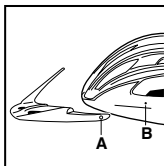

Figure 12
2. To replace the visor, center it on the helmet and then snap the pins (A) on the visor into the holes (B) in the helmet, Figure 12